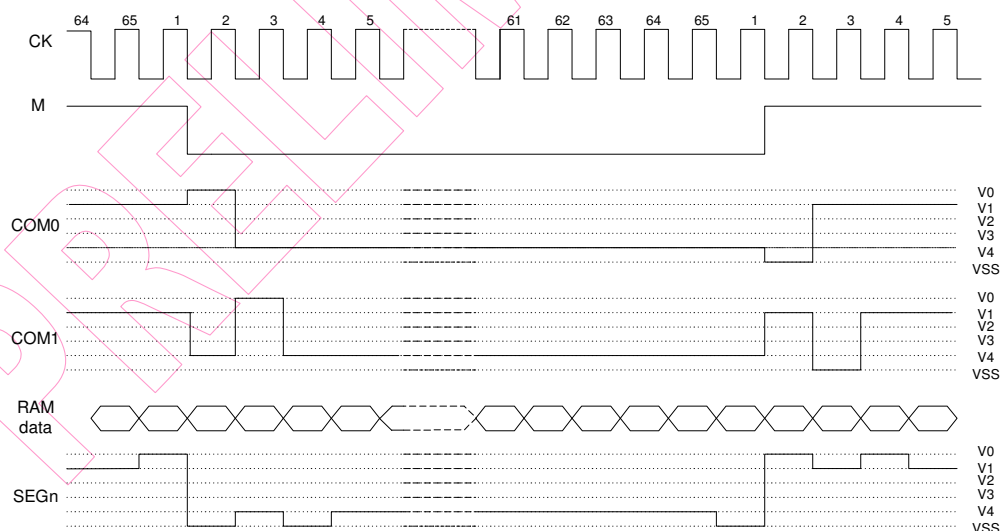

Figure 6
Moreover, the display timing generator circuit generates the common timing and the liquid crystal alternating current signal (M) from the display clock. It generates a drive waveform using a 2-frame alternating current drive method, as shown in Figure 6, for the liquid crystal drive circuit.